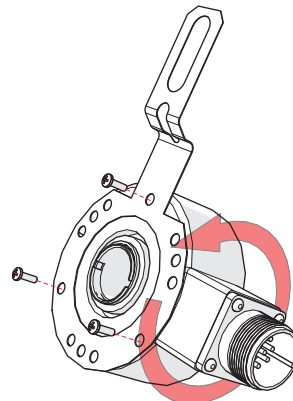

Figure 5: Flip Encoder
7. Reattach the encoder tether to the encoder using the three (3) existing bolts. See Figure 5.